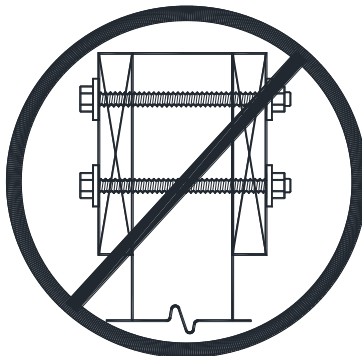

FIGURE 11: PROHIBITED CONNECTION
- Beams shall not be attached to the sides of an unnotched post as shown in FIGURE 11.